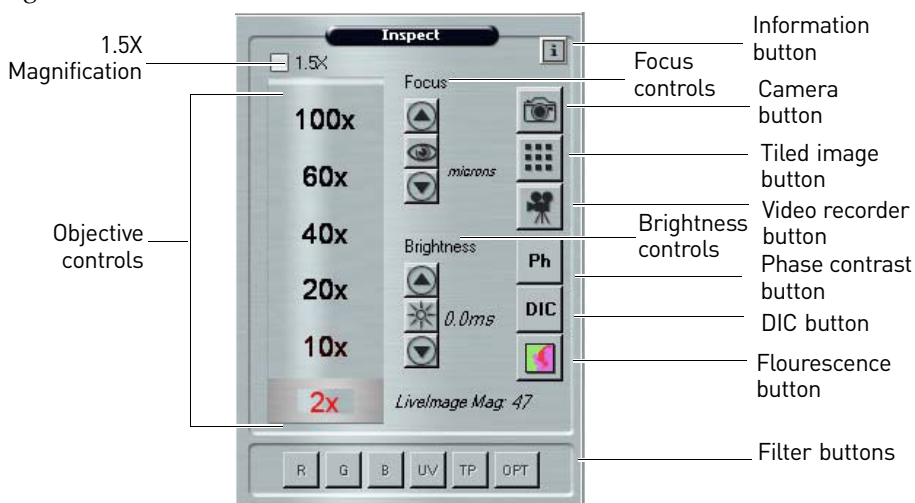

Figure 21 The Inspect tools pane.
1. Click the Information (i) button in the upper-right corner of the Inspect tools pane (see Figure 21) to open the Inspect Options dialog box.
2. Click on the 1.5X box in the Inspect tools pane (see Figure 21) to indicate that this feature has been selected.
The Arcturus^{XTM} software automatically sets the brightness when you tap or click the Autobrightness button on the Inspect tools pane (see Figure 21). If the default autobrightness is not appropriate for your sample, you can adjust the value manually and save it as the default.